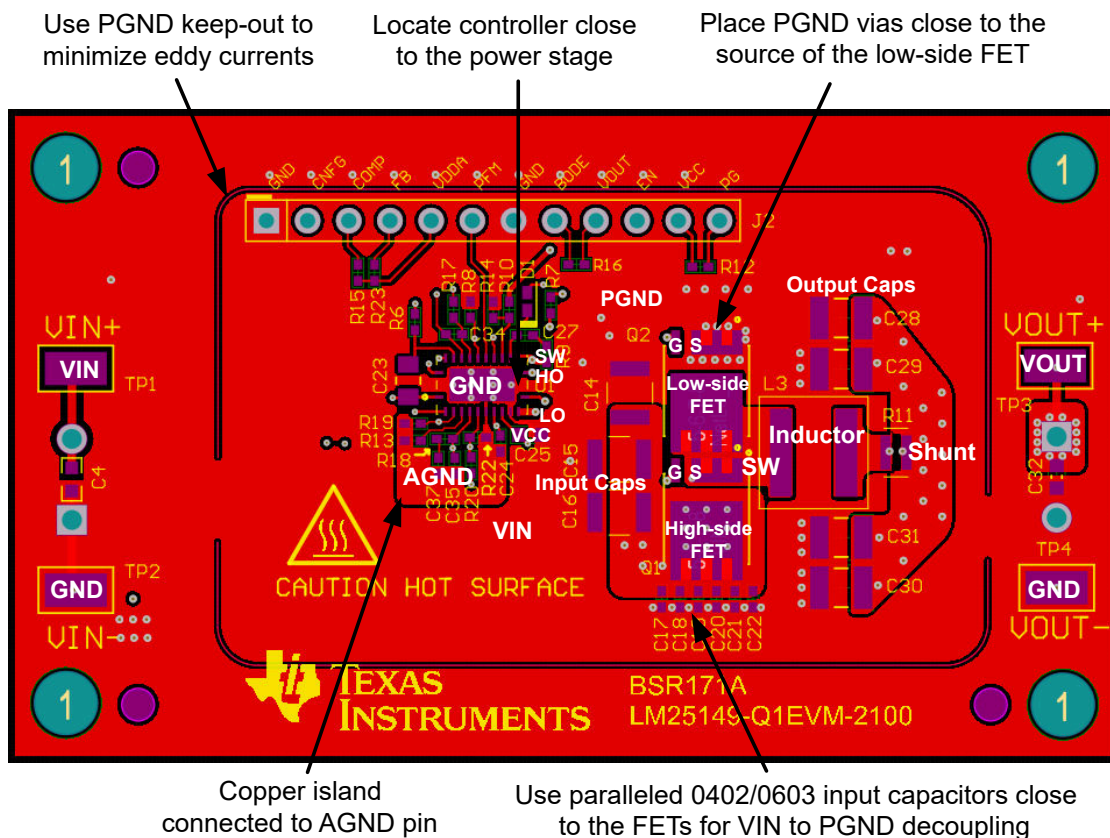

Figure 9-48. PCB Top Layer – High Density, Single-sided Design
- Connect AVSS to a quiet GND connection, further from IC if possible. Keep decoupling capacitor $C_{AEFVDDA}$ close to the AEFVDDA pin and AVSS GND connection. See capacitor C23 in Figure 9-48.
Figure 9-48 shows a single-sided layout of a synchronous buck regulator with discrete power MOSFETs, Q1 and Q2, in SON 5-mm × 6-mm case size. The power stage is surrounded by a GND pad geometry to connect an EMI shield if needed. The design uses layer 2 of the PCB as a power-loop return path directly underneath the top layer to create a low-area switching power loop of approximately 2 mm². This loop area, and hence parasitic inductance, must be as small as possible to minimize EMI as well as switch-node voltage overshoot and ringing.
- Make the ground connections to the LM5149-Q1 controller as shown in Figure 9-48. Create a power ground directly connected to all high-power components and an analog ground plane for sensitive analog components. The analog ground plane for AGND and power ground plane for PGND must be connected at a single point directly under the IC – at the die attach pad (DAP).